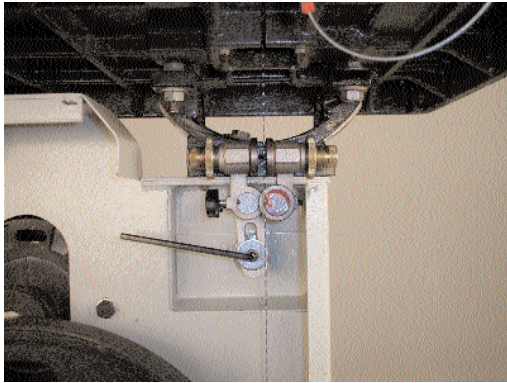

Fig. 14
1. Remove the lower GL456 blade guide. See Fig. 14.